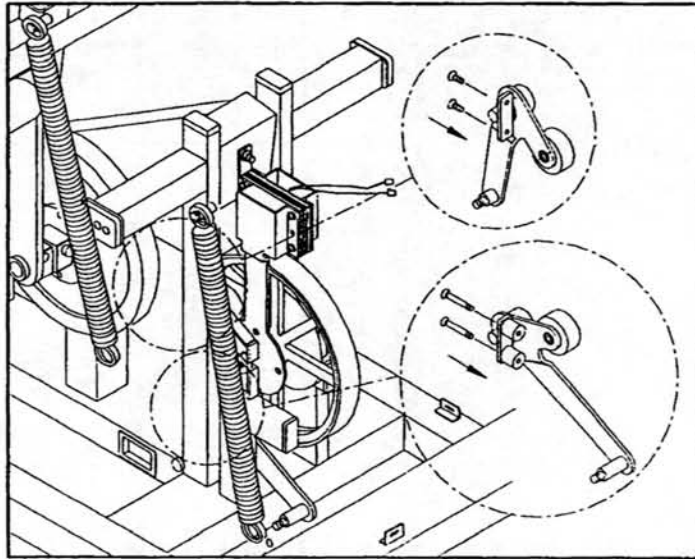

Fig.14-3
1. Replace two IDLER WHEELS and install them on the FRAME by fixing the screws (see fig.14-3 and its enlarged figure).